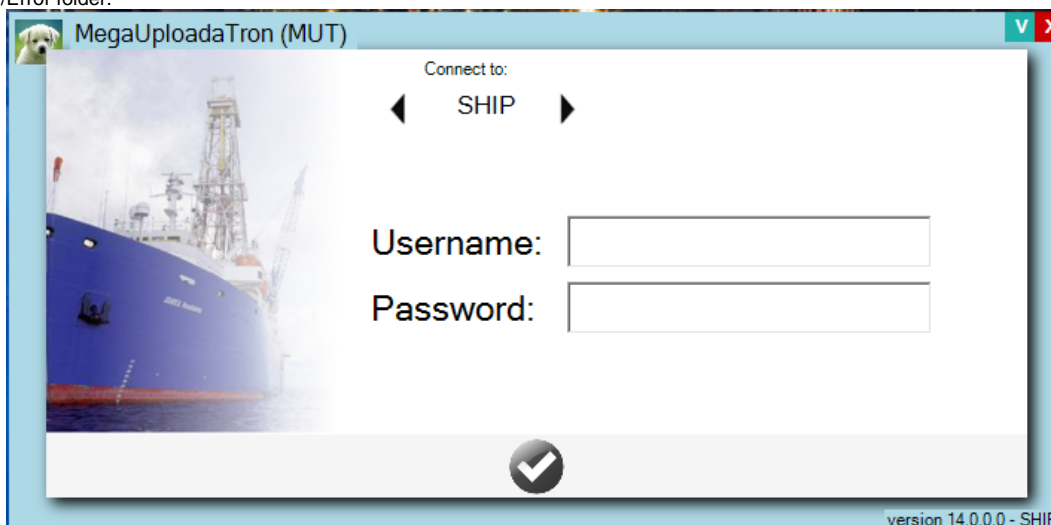
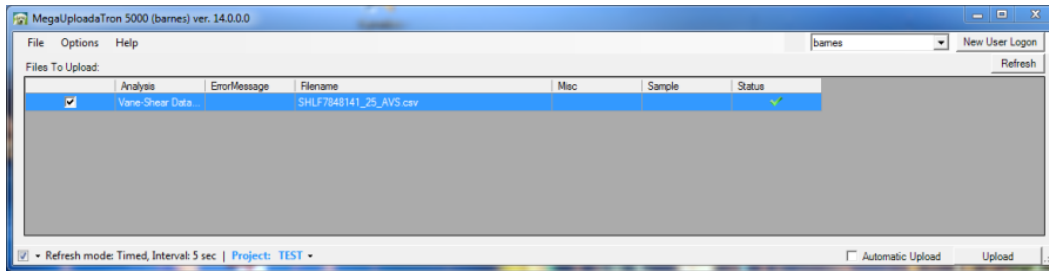

Figure 11. Logging into MUT Uploader.
Figure 12. MUT upload screen. Green check means file is in correct format for uploading to LIMS.
1. Log into MUT (Figure 11) to open the main application window (Figure 12).